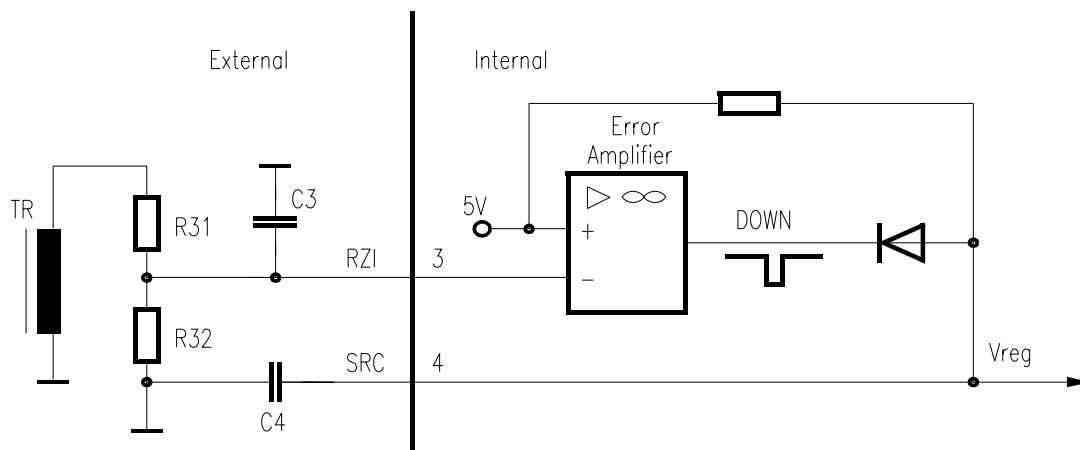
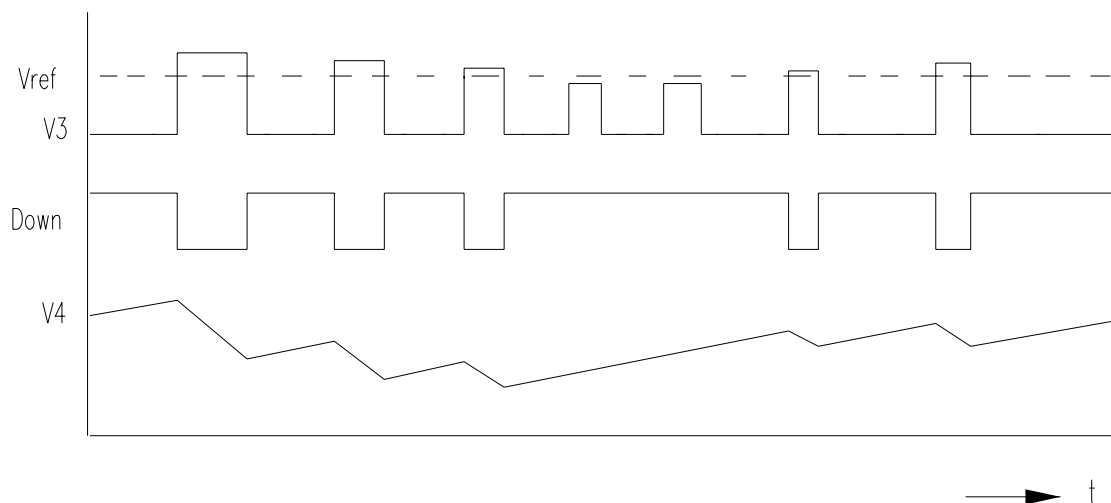

Figure 9 Error Amplifier
Figure 10 Regulation Pulse Diagram
Figure 9 shows the simplified Error Amplifier circuit. The positive input of the Error Amplifier (EA) is the reference voltage 5 V. The negative input is the pulsed output voltage from the auxiliary winding, divided by R_{31} and R_{32} . The capacitor C_3 is dimensioned only for delaying zero crossings and smoothing the first spike after switch-off. Smoothing of the regulation voltage is done with the soft start capacitor C_4 at Pin 4. During start up C_4 is charged with a current of approx. 2 μ A (Soft Start). For primary regulation C_4 is charged and discharged with pulsed currents. **Figure 10** shows the voltage diagrams of the Error Amplifier circuit.